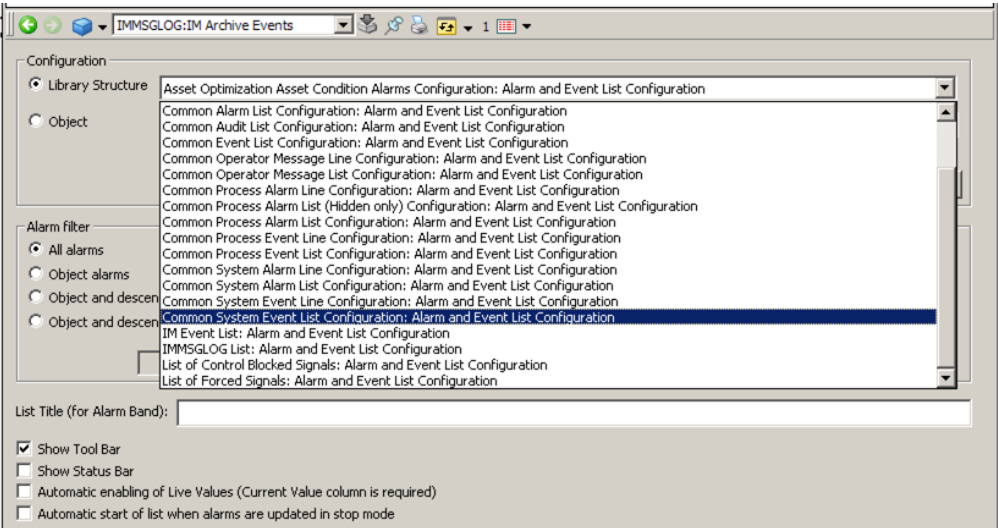

Figure 99. Common System Event List Configuration Aspect
- Use the Library Structure to select the Common System Event List Configuration aspect and click **Apply**. Refer to Figure 99.